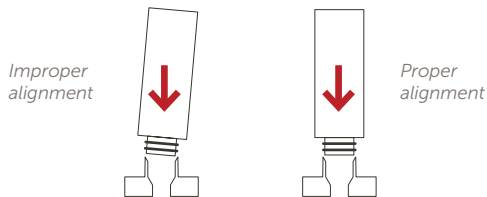

Figure 18.
- CAUTION!** Ensure the cartridges are properly aligned and fully seated. The upper end of each cartridge has a raised boss that must fit in the associated hole in the hold-down plate, Figure 18.